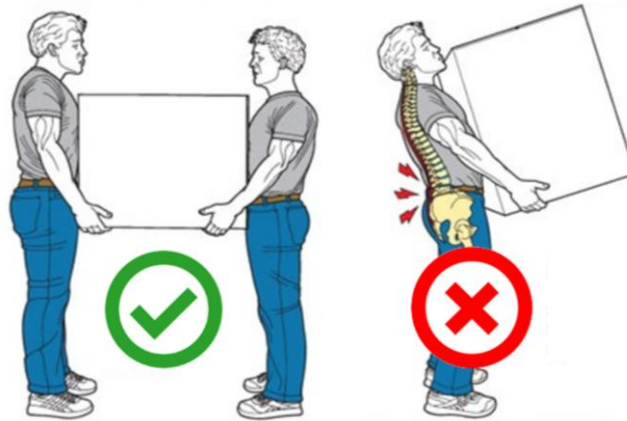

Fig. 6-5 - Handling technique
- Ensure at least two operators manage the lifting of bulky loads (Fig. 6-5).